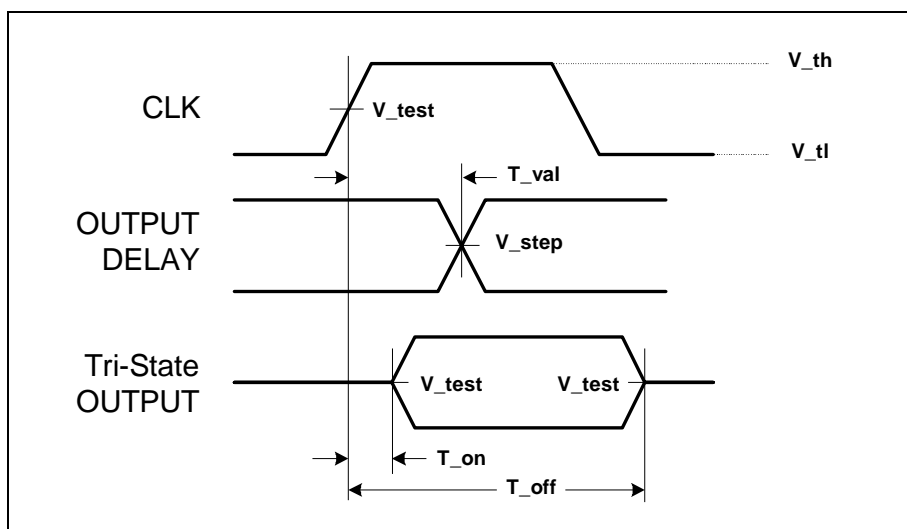
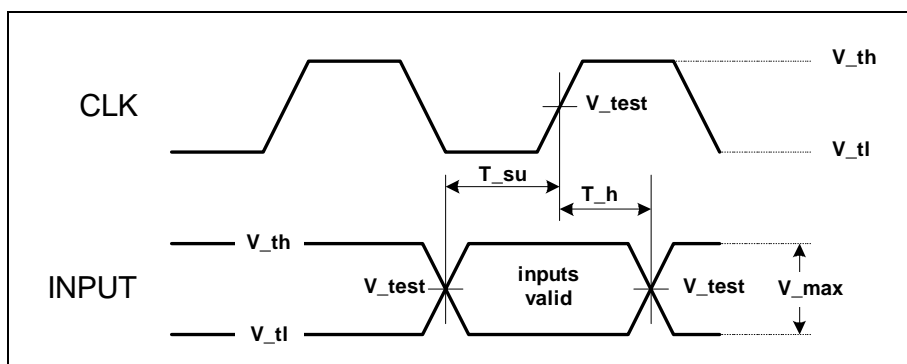

Figure 32. Output Timing Measurement Conditions
Figure 33. Input Timing Measurement Conditions
Figure 32, Figure 33, and Table 39 define the conditions under which timing measurements are done. The component test guarantees that all timings are met with minimum clock slew rate (slowest edge) and voltage swing. The design must guarantee that minimum timings are also met with maximum clock slew rate (fastest edge) and voltage swing. In addition, the design must guarantee proper input operation for input voltage swings and slew rates that exceed the specified test conditions.
1. Timing measurement conditions are illustrated in Figure 32.
5. Timing measurement conditions are illustrated in Figure 33.